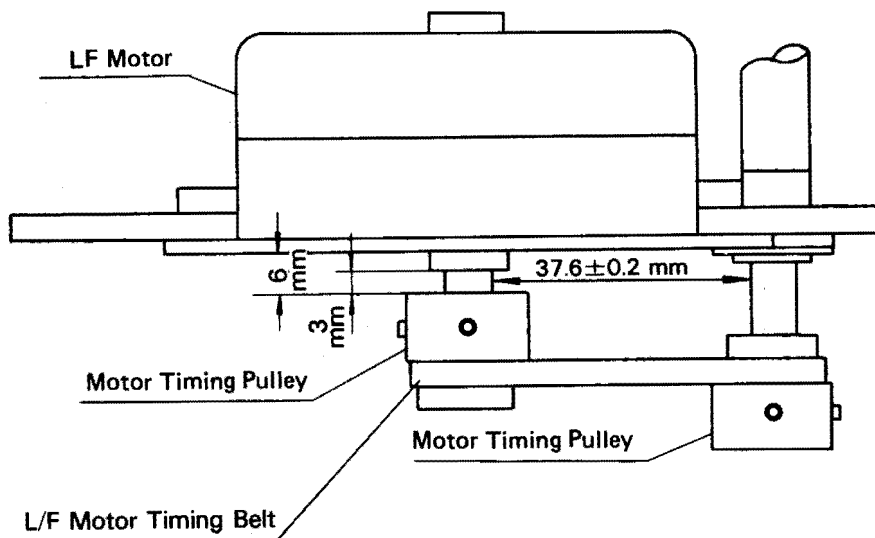

Figure 50.
1. Take out the two mount screws ① and ② from the Motor Timing Pulley. Remove the Motor Timing Pulley and Belt. (see Figure 50)